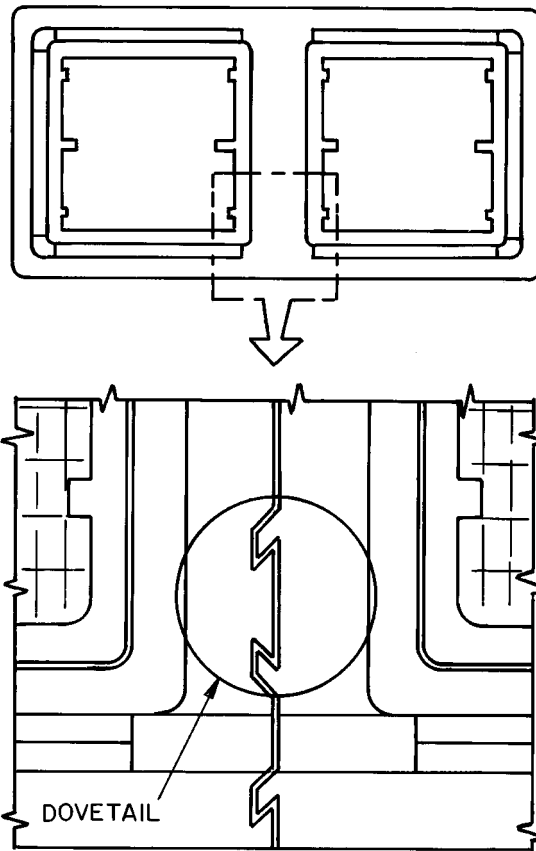

Fig. 8 — Dovetail Connection
- b. On the 036 and 048 units that have a 2-piece frame, be sure to align and securely lock the dovetail (Fig. 8). Connect the frame with the 8 screws provided.